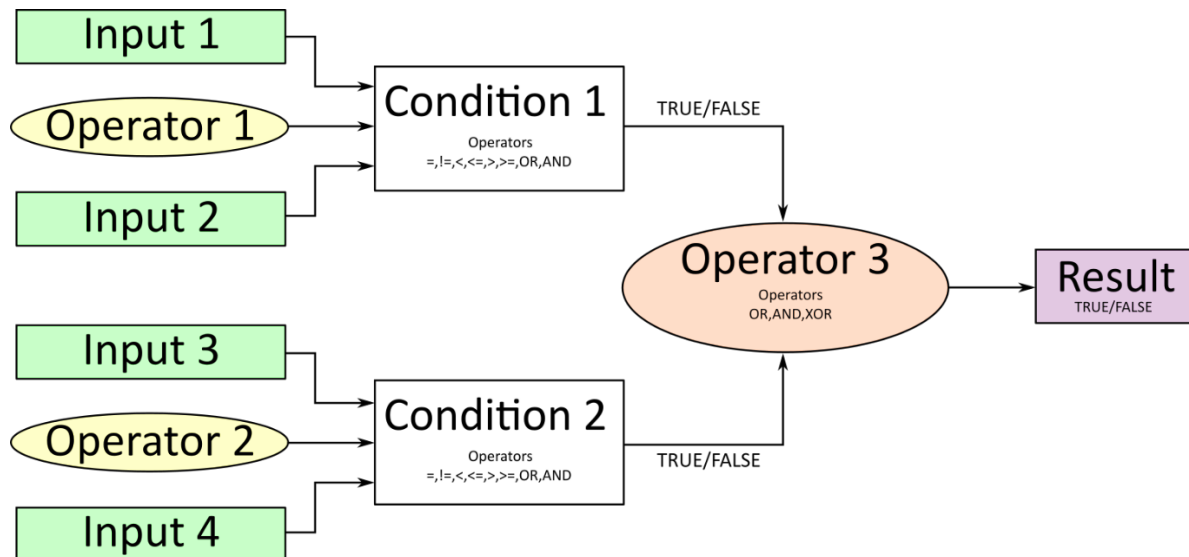

Figure 2: Conditional Block Diagram
The Conditional Block compares up to four different input sources with different logical or relational operators. The result of each block can therefore only be true (1) or false (0). Figure 2 demonstrates the connections between all parameters.